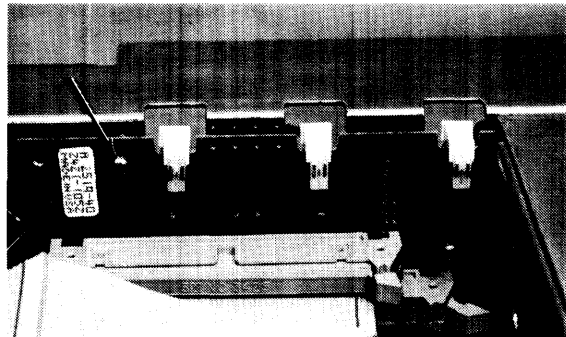

Figure 2-8. Motherboard Fasteners
2. Using a #1 Pozidriv® screwdriver, remove the four screws holding the motherboard to the fan housing. Refer to Figure 2-8.